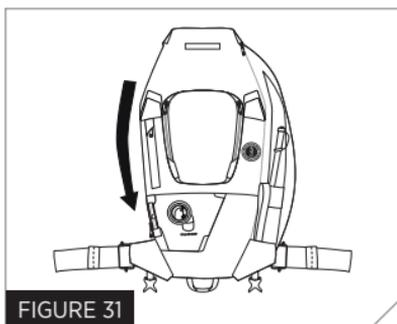
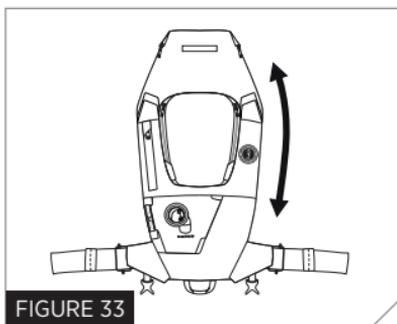

FIGURE 31
FIGURE 33
7. Zip each side closed, by running each zipper all the way down to the zipper stop and then back up (Fig. 31 – Fig. 33)
8. Close Velcro™ tabs over each zipper stop. This will prevent unintended break-out of the zippers (Fig. 33)